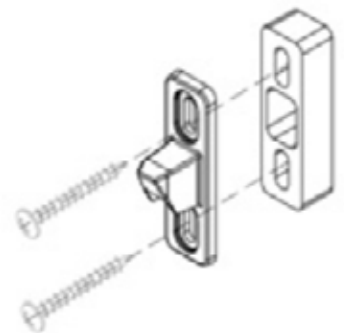

Figure 26
9. **The box screen keeper** (Item 31) must be installed with the screen spacer (Item 32; Figure 26). Attach the keeper using two screws (Item 43).